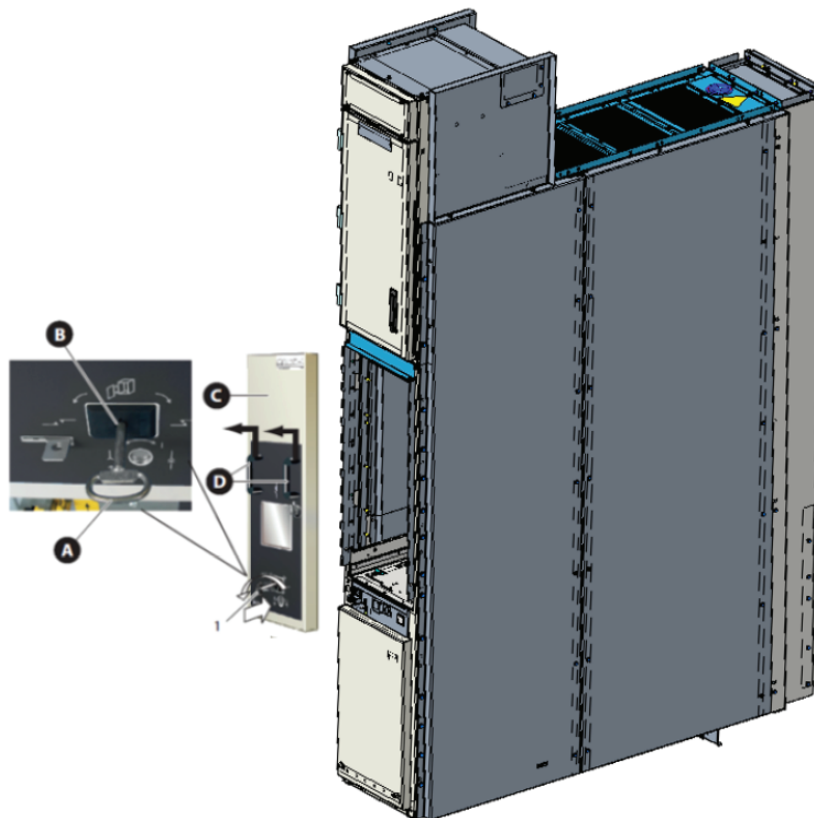

Fig. 1
1. To unlock the door, insert the appropriate double-bit key (Fig. 1, item A) in the door lock (item B) and turn it counter-clockwise to its stop. The cover is unlocked.
1. Pick up the switching device compartment cover (Fig 1, item C) using the two handles (item D), place it in the cutout on the panel and lower it.